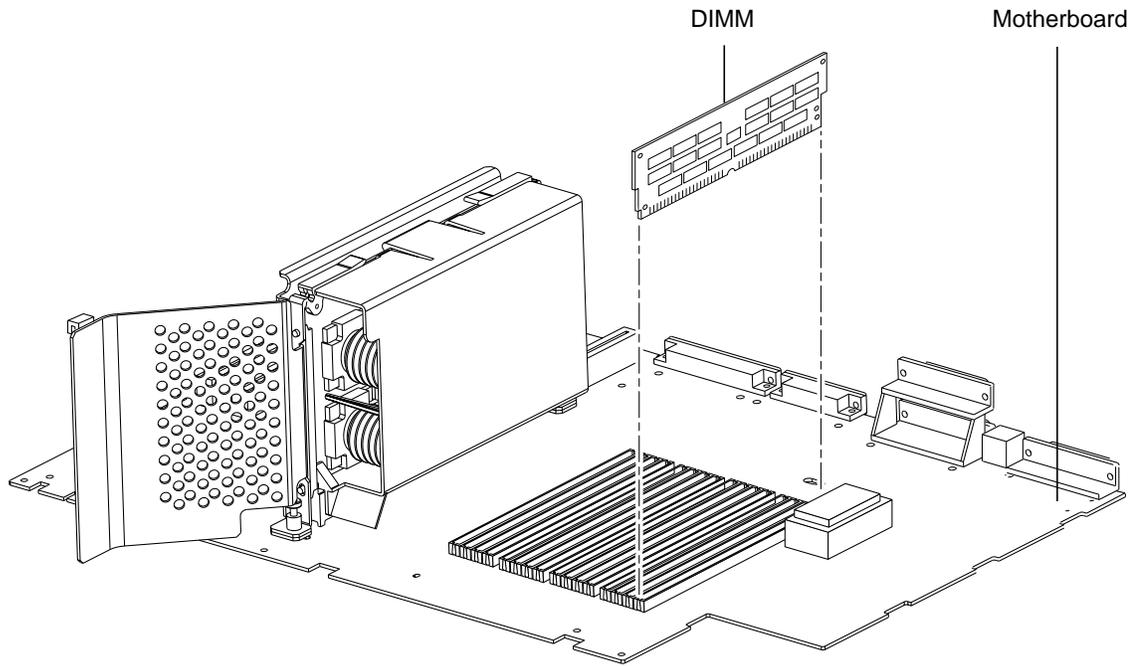

FIGURE 10-7 Removing and Replacing a DIMM
8. Remove the DIMM from the socket (see FIGURE 10-7 on page 85).